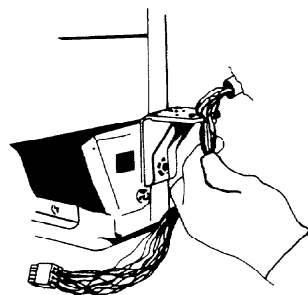

FIGURE 26
15. Thread wires through slot in door hinge. See Figure 26. Hinge pin and door closures stay attached to the door.